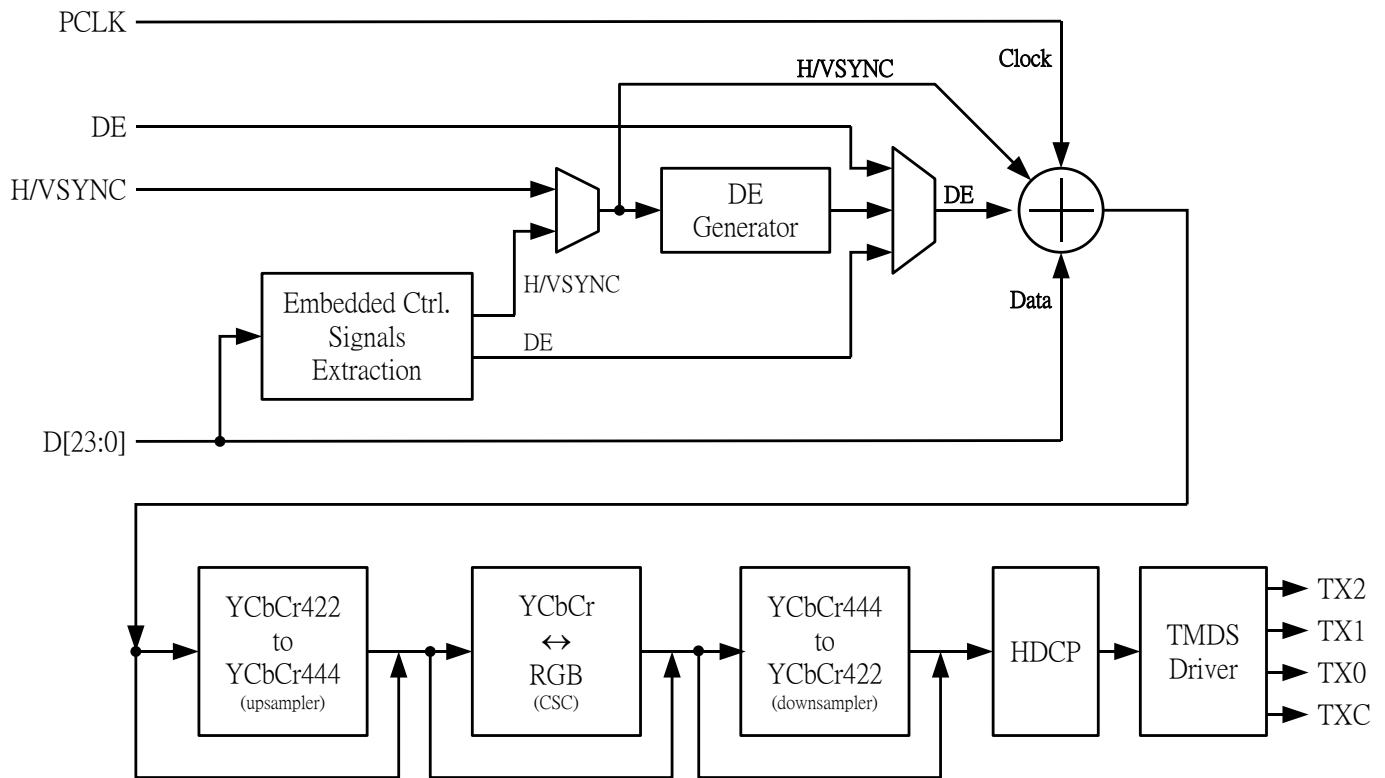

Figure 3. Video data processing flow of IT66121
Figure 3 depicts the video data processing flow. For the purpose of retaining maximum flexibility, most of the block enabling and path bypassing are controlled through register programming. Please refer to IT66121 Programming Guide for detailed and precise descriptions.
As can be seen from Figure 3, the first step of video data processing is to prepare the video data (Data), data enable signal (DE), video clock (Clock), horizontal sync and vertical sync signals (H/VSYNC). While the video data and video clock are always readily available from input pins, the preparation of the data enable and sync signals require special extraction process (Embedded Ctrl. Signals Extraction & DE Generator) depending on the format of input video data.
Although not explicitly depicted in Figure 3, input video clock (PCLK) can be configured to be multiplied by 0.5, 1, 2 or 4, so as to support special formats such as CCIR-656 and pixel-repeating. This is also enabled by software programming.